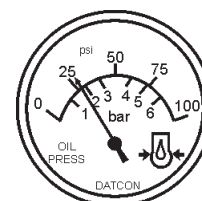

Figure 58. Oil Pressure Gauge
14. The engine oil pressure gauge (Figure 58) will indicate the oil pressure (kg/ cm²) of the engine. Under normal operating conditions the oil pressure is approximately